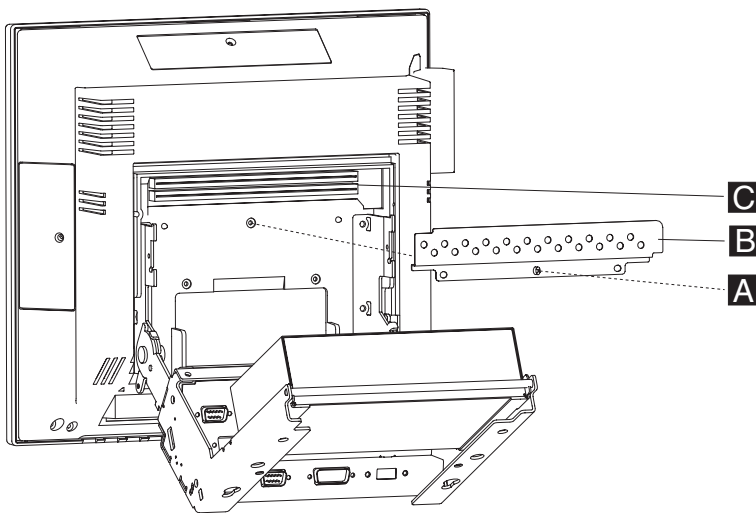

Figure 62. Removing the memory cover
5. To access the remaining modules **C**, remove the screw from the memory cover (**A** in Figure 62) located on the back of the display, and slip the cover **B** off of the two alignment pins.